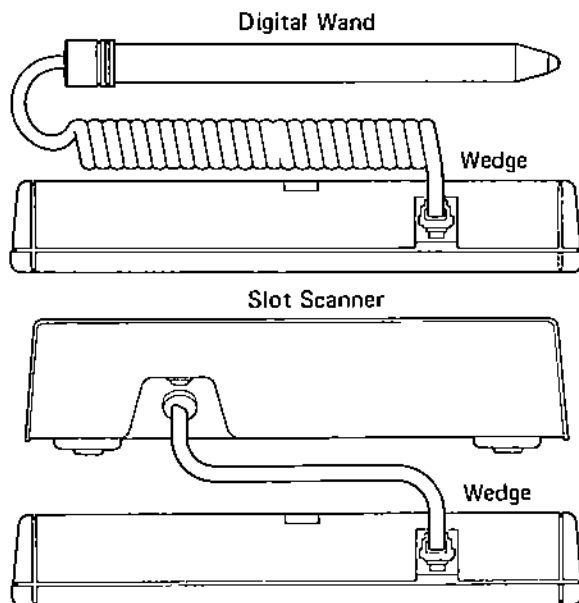

Figure 2-2
Use Figure 2-2 and the procedure below to connect a wand or a slot scanner to your wedge reader.
1. Locate the modular connector (Figure 2-2) on the side of the wedge reader.